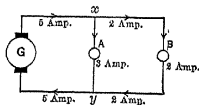
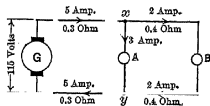

FIG. 63. The line current between the generator and lamp *A* is 5 amperes while the line current between the lamps is only 2 amperes.
FIG. 69. The voltages across the lamps are different.
Suppose, as in Fig. 63, two lamps *A* and *B* are connected to a circuit in such a way that *A*, taking 3 amperes, is much nearer the generator than *B*, which takes 2 amperes. Then in the section of the line which lies between *A* and *B*, 2 amperes must flow in order to supply lamp *B* with 2 amperes. But the section of the line between the generator and *A* must carry enough current to supply both lamp *A* and lamp *B*. Thus this section must carry 5 amperes.
24. Voltage Required for the Line. Line Drop. Let us assume that a circuit, Fig. 69, is arranged as in Fig. 63, except that the resistance of the line wires and the generator voltage are introduced. The wires from the generator *G* to the lamp *A* each have a resistance of 0.3 ohm. The wires from the lamp *A* to the lamp *B* each have a resistance of 0.4 ohm.